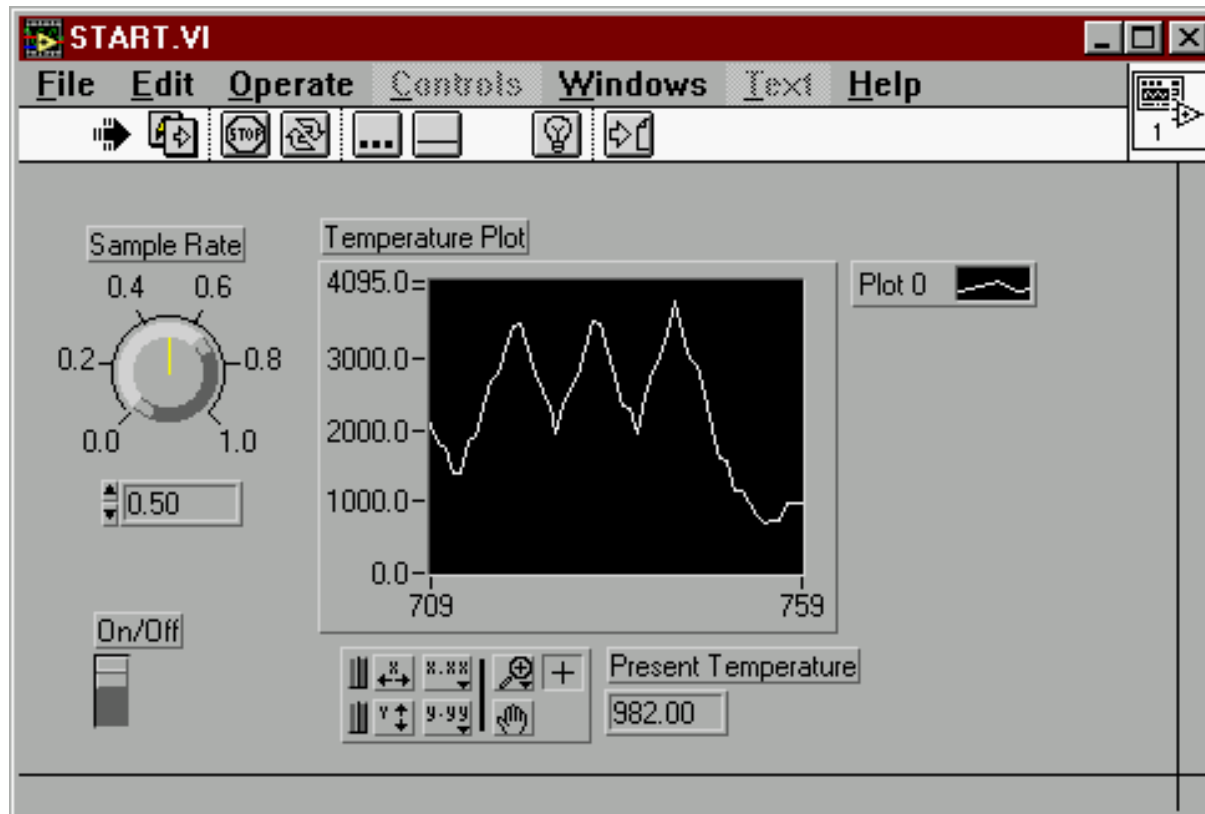

Figure 10 : First Run Through
- This would be a good time to test the program. Connect a potentiometer to AN0 on the ADR112 and run the VI from the Panel Window. Vary the pot and the display should look something like Figure 10. Vary the sample rate to become familiar with its operation. Do not forget to click on the ON/OFF switch to enable operation.